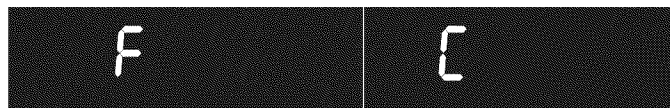

Figure 22: Display showing Fahrenheit and Celsius
2. Once F (or C) appears in the display, press the Up / Down arrow keys to toggle between Fahrenheit and Celsius temperature display modes (See Figure 22).